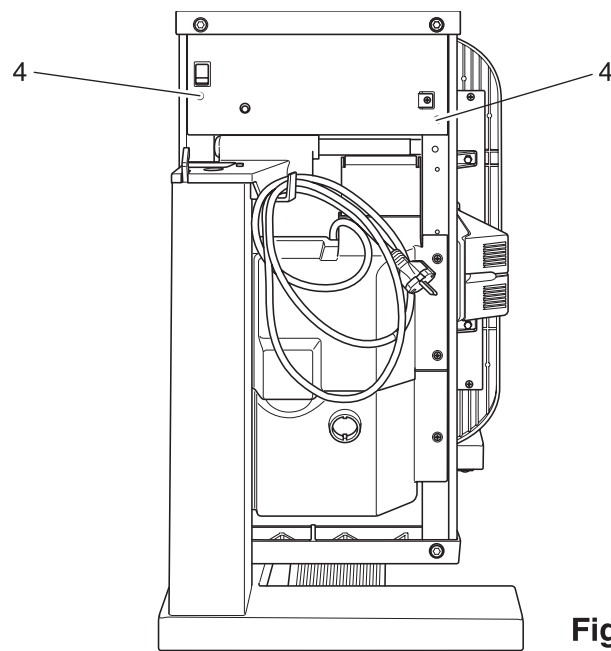

Fig. 24a
- Remove screws 4 from the cover plate (fig. 24a).